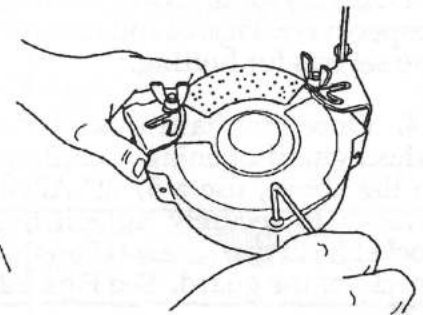

Fig. 18
**19.** Use a 5/32" Allen wrench to securely tighten the cap screw (22), as shown in Fig. 18.